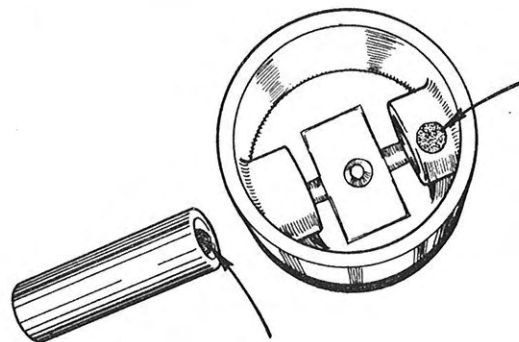

Fig. 13. Colour markings of piston and piston pin
1. White-marked piston must be fitted with white or red piston pin, and black-marked piston with black or blue piston pin. The black or blue piston pins are of equal and smaller diameter than white or red ones. See Fig. 13.